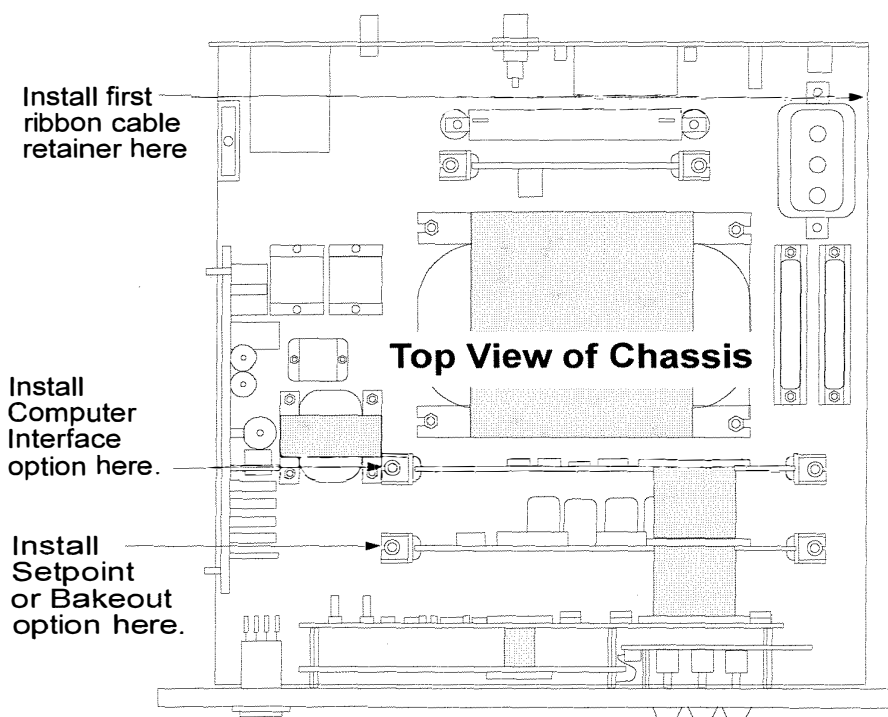

Figure 2-3. Location of Setpoint/Bakeout and Computer Interface Options
Options are typically installed at the factory. If you need to install an option, read the following procedure before you begin. Figure 2-3 shows a top view of the chassis with options installed.
5. Install two ribbon cable retainers on the rear side (Figure 2-3). Place one two in. (51 mm) from the rear panel and the other nine inches (229 mm) from the rear panel, both one in. (25 mm) from the bottom of the unit.